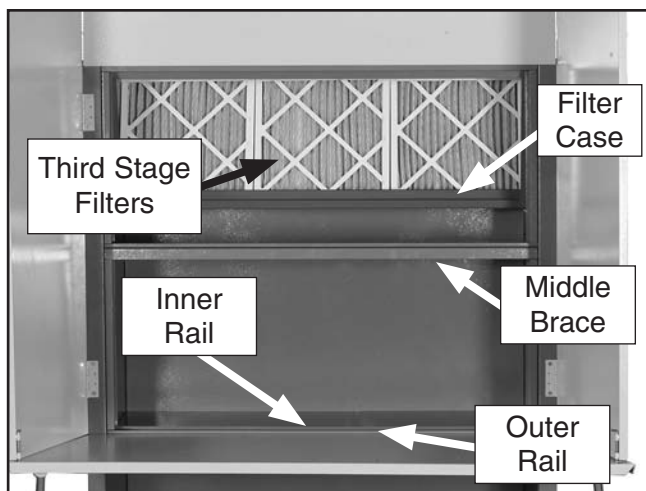

Figure 12. Third stage filters (only three shown).
1. Install the six third stage filters into the filter case as shown in **Figure 12**.